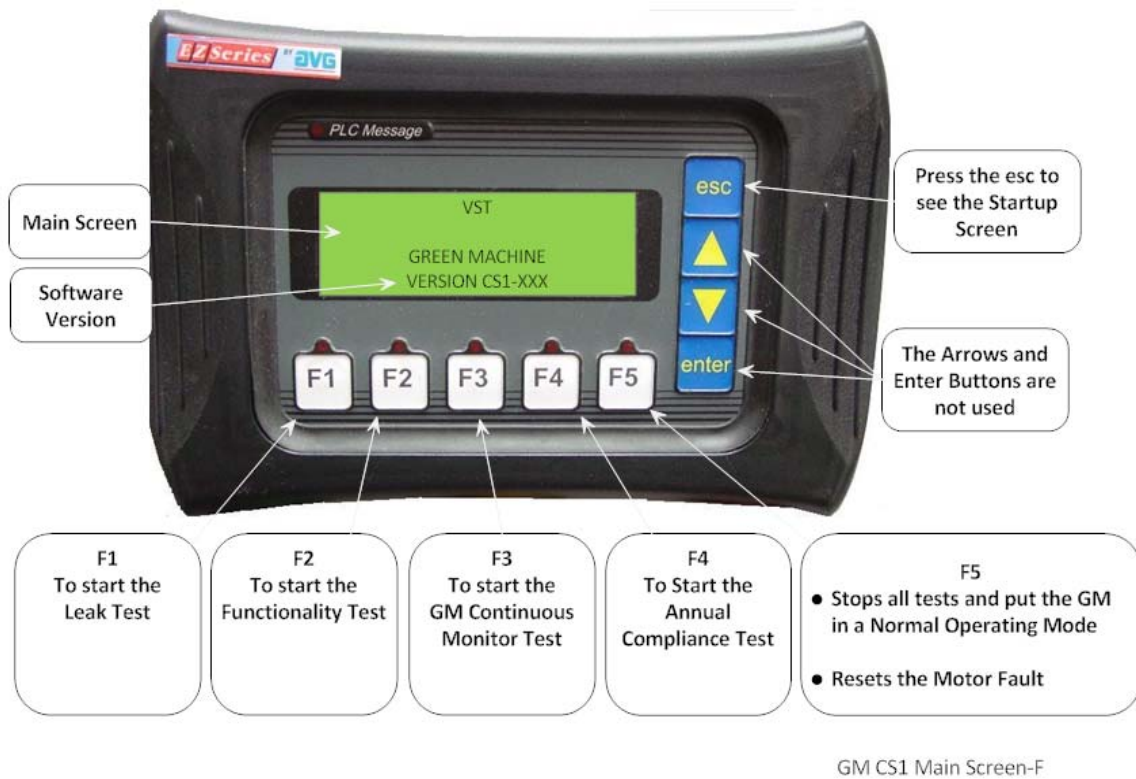

Figure 14: Functionality Test Run Screen
1. Push the F2 button to start the Functionality Test, **see Figure 14.**